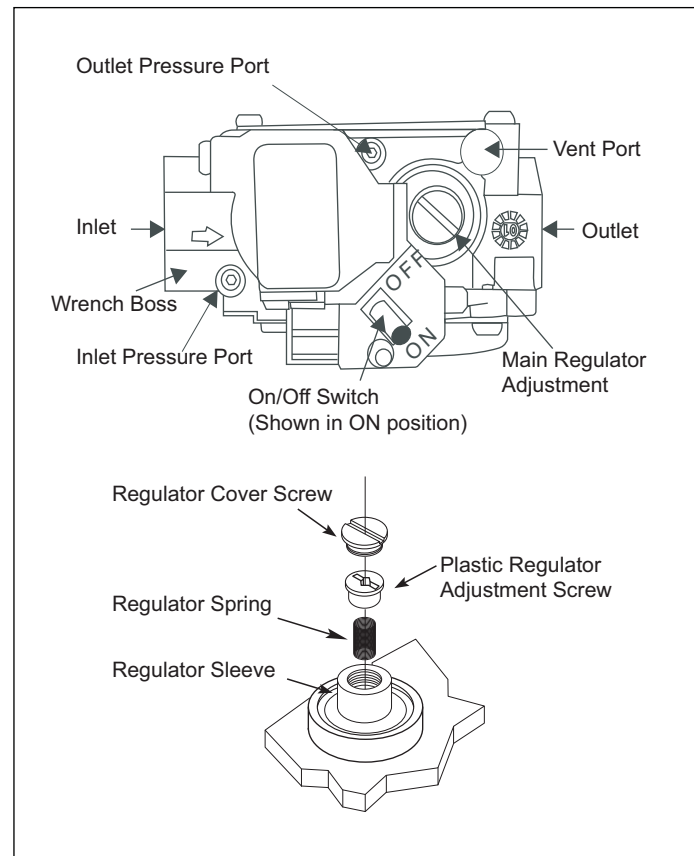

Figure 3 Gas valve
2. With a 3/32 inch hex wrench, remove the manifold pressure tap plug located on the outlet side of the gas valve. Refer to Figure 3.
5. Allow the furnace to operate for three (3) minutes and then check the manifold pressure. For LP gas installations, the manifold pressure should be set to 10" WC. If the manifold pressure is not set to the appropriate pressure, then it must be adjusted.
1. If the manifold pressure must be adjusted, then remove the regulator cover screw from the top of the gas valve regulator, as shown in Figure 3.